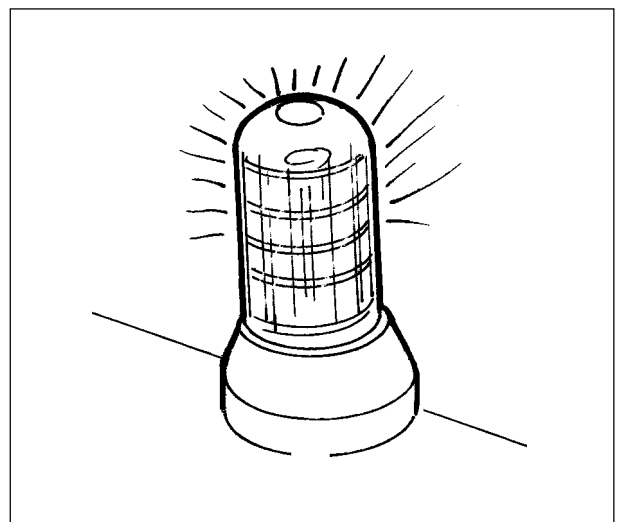

Fig.2-39
- Use flashing lights or beacon when travelling on roads, day or night, unless prohibited by law (Fig. 2-39).